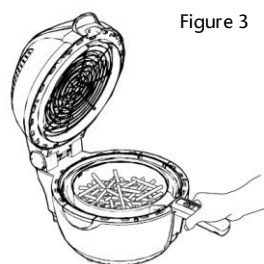

Figure 3
1. Make sure the Pan (12) is properly inserted into the Main Base (10) of the unit.
2. Place ingredients into Basket (13) and place Basket (13) into the Pan (12). (See Figure 3)